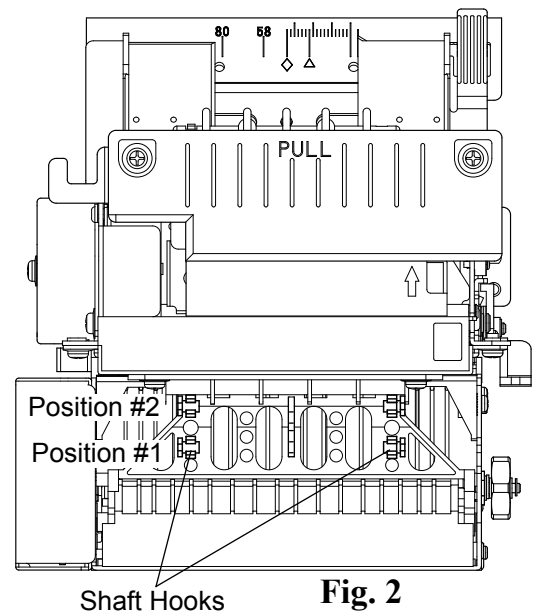

Fig. 2
Note: If the paper we recommend (refer to the TUP500 Series Product Specifications) is not used, or depending on use environment, it may be necessary to attach the Weight Bar to position #1 or #2 (Fig. 2).
- 1) Use the two hooks at the left and right of position #1 to secure the Weight Bar in place (Fig. 2).
- Note 1: If the paper we recommend (refer to the TUP500 Series Product Specifications) is not used, or depending on use environment, the Weight Bar may be adjusted to Position #2 (Fig. 2).